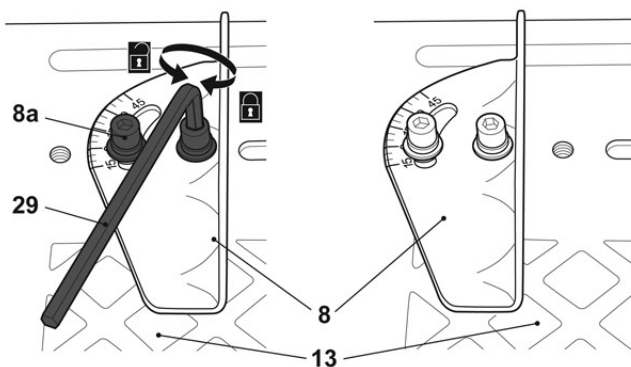

Fig.5
- > Loosen the mounting bolts (8a) with the hex key (29) and remove them from the cutting table (13) together with the spring rings (8b), washers (8c) and mitre gauge (8).
- > Place the mitre gauge (8) in the required position and secure it to the cutting table (13) with the washers (8c), spring rings (8b) and mounting bolts (8a) (Fig. 5).